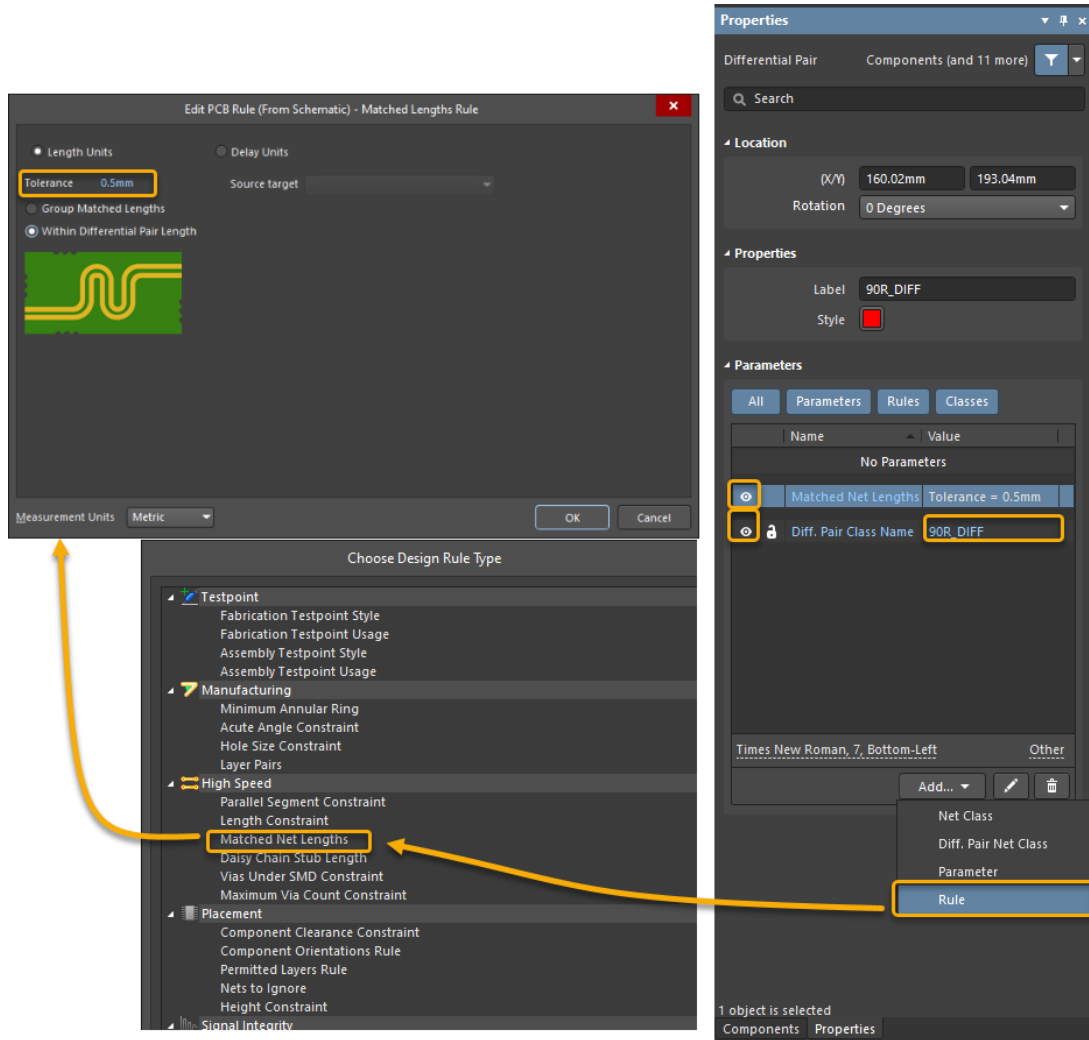

Figure 7. Differential Pair Class and Design Rule
10. Still in the *Properties* panel, as shown in Figure 7